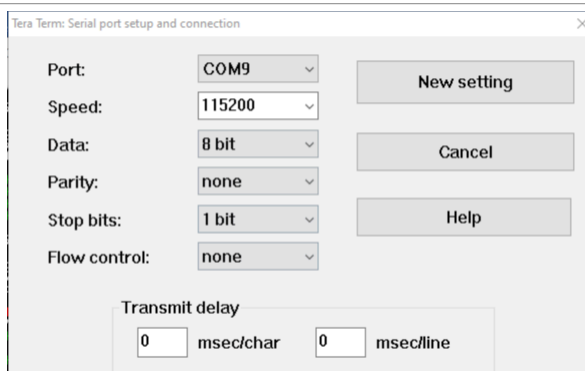

Figure 12. Serial port settings
2. Open a serial port console with the baud rate of 115200 and other serial port settings on the PC, as shown in Figure 12.